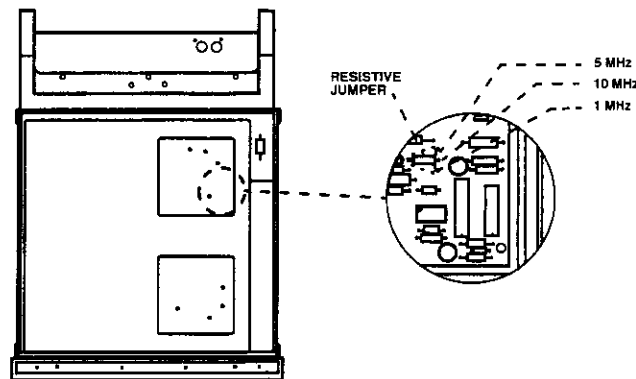

Figure 2-2. Time Base Jumper Location (A 3 Board)
- c. Refer to Figure 2-2. Locate the A3 50 MHz Reference Oscillator. Using a 1/4 inch wrench (spanner), slacken the eight retaining nuts (2 per side) which secures the top cover. Then remove the top cover. Locate the time base selection link.